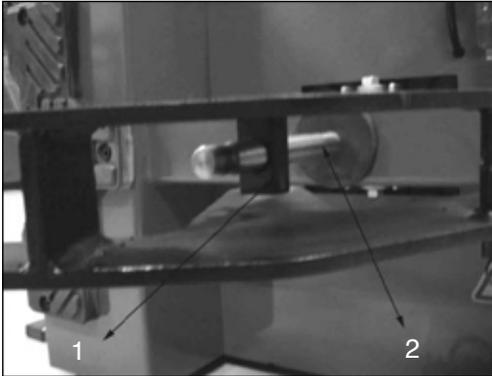

FIG 10
3.2.5 Position the bead breaking arm shaft bushing into the bead breaking support plate on the body (FIG 9-1) to align the hole and install the bead breaking bolt (FIG 9-2) and assemble the nut to lock (FIG 8-4). Insert the piston rod (FIG 10-2) through the hole of the bead breaking slide bushing (FIG 10-1). The surface of the slide bushing should be outwards (FIG 10). Assemble the removed nut (FIG 8-1) into the front end of the piston rod. The nut will be assembled. The distance from the edge of the bead breaking blade to the bead breaking rubber is 30~40mm (FIG 11). Hang the spring (FIG 9-3).